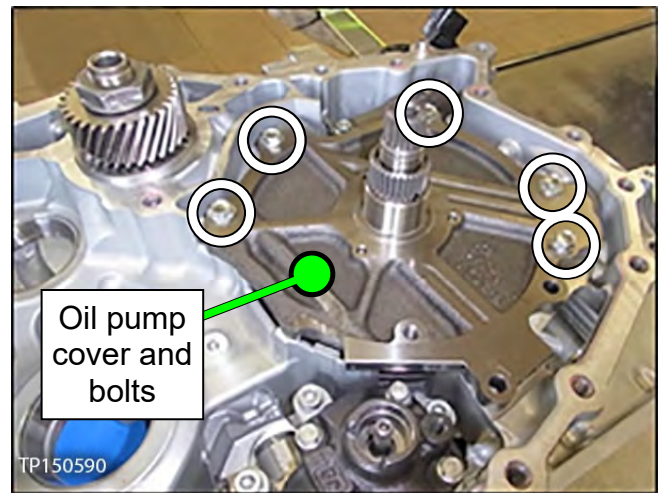

Figure 45
7. Remove the five (5) bolts, and then remove the oil pump cover (see Figure 45).